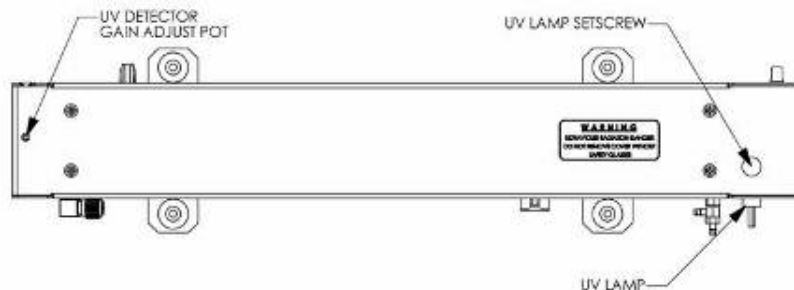

Figure 6-10. Photometer Assembly – Lamp Adjustment / Installation
4. Locate the UV detector gain adjust pot on the photometer assembly (see Figure 6-10).
4. Locate the UV lamp at the front of the optical bench assembly (see Figure 6-10).
9. Turn the UV detector gain adjustment pot (See Figure 6-10) clockwise to its minimum value. The pot may click softly when the limit is reached.